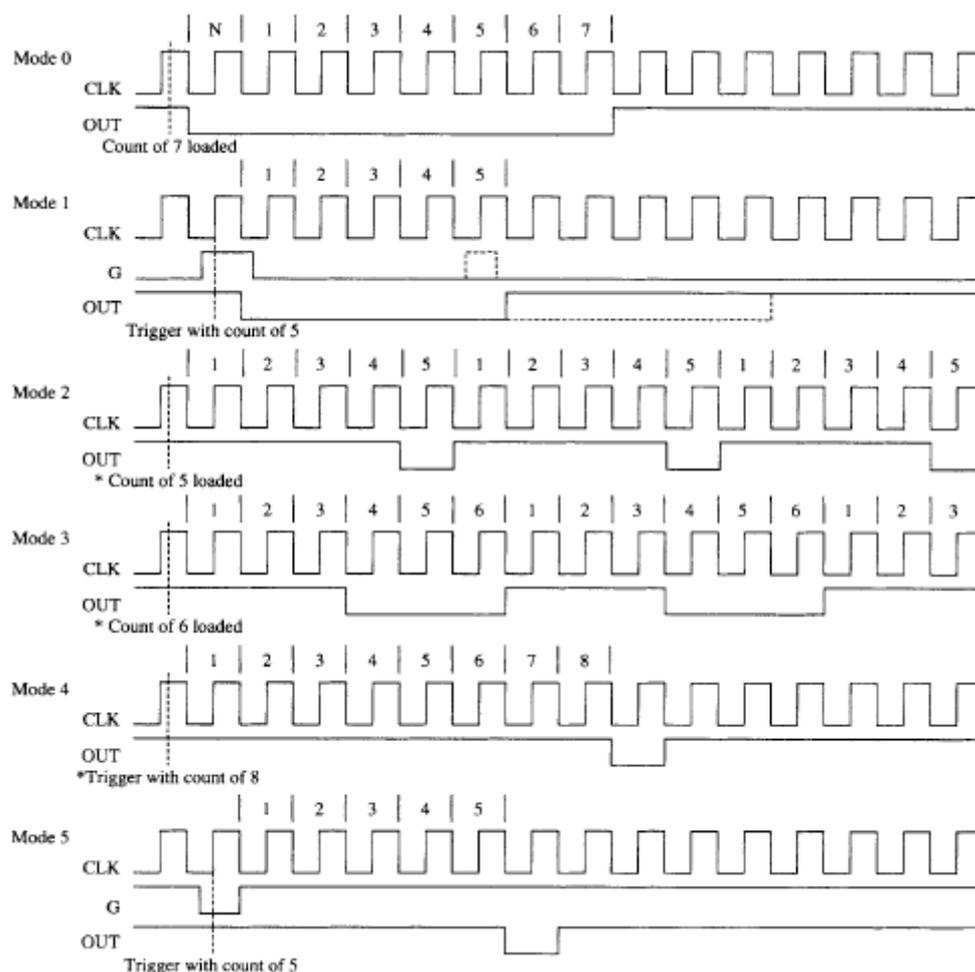

Figure 11-35: The six modes of operation for the 8254-2 Programmable interval timer
- Allows the counter to be used as an events counter (Figure 11-35)